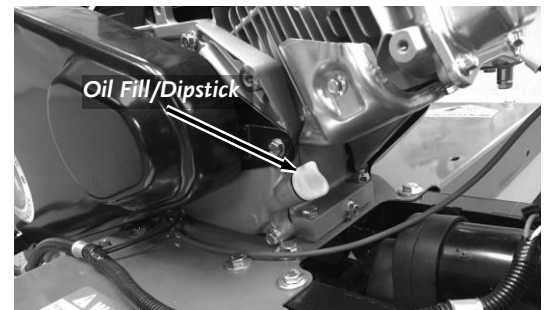

Figure 18
1. Remove the Oil Fill Cap and vacuum the Oil from the Engine through the Oil Fill (**Figure 18**) using a Vacuum Pump Oil Drainer.